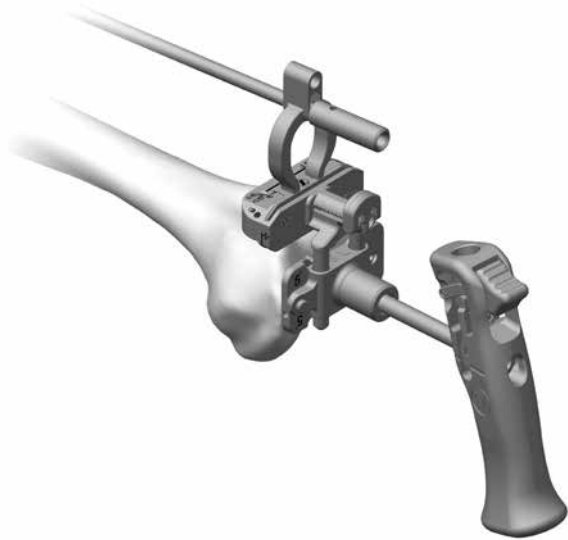

Figure 8
**ⓘ Technique Tip:** Confirm valgus alignment by inserting the drop rod adapter into the large holes on the anterior face of the cut guide and insert an alignment rod into the drop rod adapter (Figure 8).